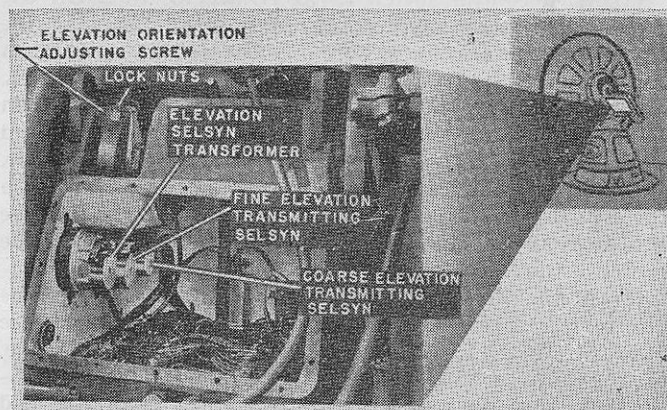

FIGURE 40.—Elevation selsyn compartment.
(7) Note that when the two sights are pointed at each other, one is depressed and the other elevated. If the SCR-584 is depressed, the angle of depression as indicated by the inner elevation dials at the tracker must be exactly the same reading as the angle of elevation indicated by the outer dials. The angle of *depression* as read at the computer must be the same as the angle of *elevation* as read at the tracker.
(8) Loosen lock nut on the elevation selsyn drive shaft. Loosen setscrew lock nuts on elevation selsyn adjusting arm; adjust setscrews until the angle of *depression* read at the dials of the computer is the same as the angle of *elevation* as read at the tracker. Tighten setscrew lock nuts and the lock nut on the elevation selsyn drive shaft. (See fig. 40.)
(9) Throw the radar height finder switch at the tracker to the **RADAR** position. Loosen the clamps on the SCR-584 coarse azimuth transmitting selsyn, and rotate its stator until the outer and inner pointers of the coarse azimuth dial at the tracker differ by 3,200 mils. Tighten the clamp in this position. Loosen the clamps on the SCR-584 fine azimuth transmitting selsyn and rotate its stator until the outer and inner pointers of the fine azimuth dial at the tracker are exactly matched.
(10) If the inner elevation pointers at the tracker do not read as indicated in (7) above, it will be necessary to remove the cover plate on the rear of the pedestal yoke. Loosen the clamps on the SCR-584 coarse elevation transmitting selsyn and rotate the stator until the angle of depression as indicated on the inner dial of the coarse selsyn of the tracker is the same as the angle of elevation as indicated on the outer dial of the same selsyn. Tighten the clamps in this position.
(11) The fine elevation pointers are adjusted in the same manner.
(12) Personnel on the roof must stand clear of the parabola. Start the azimuth and elevation motor generators. Turn the safety switch to RUN and rotate the parabola approximately 3,200 mils with the azimuth handwheel. Turn the control switch to REMOTE.
(13) Look at both the fine and coarse azimuth indicators of the tracker. If the inner and outer pointers of each are not matched, then match them by loosening the clamps on the azimuth selsyn transformer in the base of the pedestal of the SCR-584 and rotate its stator until both fine and coarse azimuth pointers are matched. When the pointers are matched the parabola is pointing in the same direction as the tracker instead of at the tracker. Tighten the clamps in the position.
(14) Look at both the fine and coarse elevation indicators of the tracker. If the inner and outer pointers of each are not matched, then match them by loosening the clamps on the elevation selsyn transformer located in the pedestal of the SCR-584 and rotate its stator until both the fine and coarse pointers are matched. When the pointers are matched, the parabola is pointing in the same elevation as the tracker. Replace the elevation selsyn cover plate.
(15) Traverse the director to 0 mils in azimuth and 0 mils in elevation. The parabola of the SCR-584 must follow and the azimuth and elevation pointers at the director must stay matched.
(16) Turn OFF the azimuth and elevation motor generators. Wait until the motor generators stop, then throw the safety switch to STOP.
(17) Loosen the clamp on the PPI selsyn located in the base of the pedestal and rotate its stator to cause the sweep direction on the PPI to agree with the azimuth read on the inner pointers of the tracker, which is 0 mils. Replace the azimuth selsyn cover plate.
(18) Place the control switch in AUTOMATIC and look at the pointers of the azimuth and elevation indicators on the antenna position indicator. If all of the pointers do not read zero, they require adjusting as indicated below.